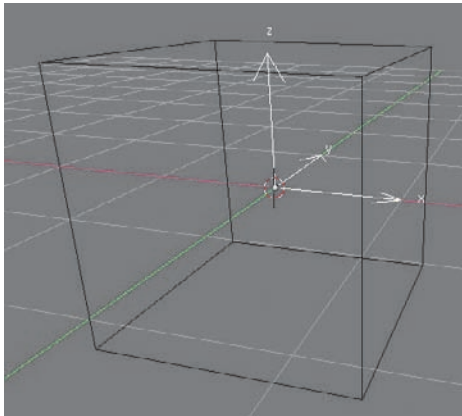

Figure 2.29 Add an empty
4. Move the current frame back to 1 to clear the particles from the viewport. It is going to be necessary to map some textures to a moving object, and a good option for this is an empty. Add an empty by pressing the spacebar and choosing Add > Empty. Press Alt+R and Alt+G to clear the rotation and the location, which will send the empty to the same location as the default cube, as shown in Figure 2.29.